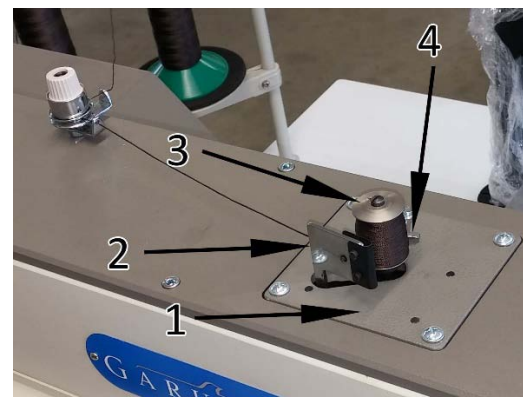

Fig. 12
A) Insert the bobbin (3) on bobbin winder shaft (1).
B) Press the winder lever (2) to activate the operation and start the machine.
C) When the bobbin is fully wound with thread, the winder lever releases the bobbin. Cut the thread by knife (4), see Fig. 12